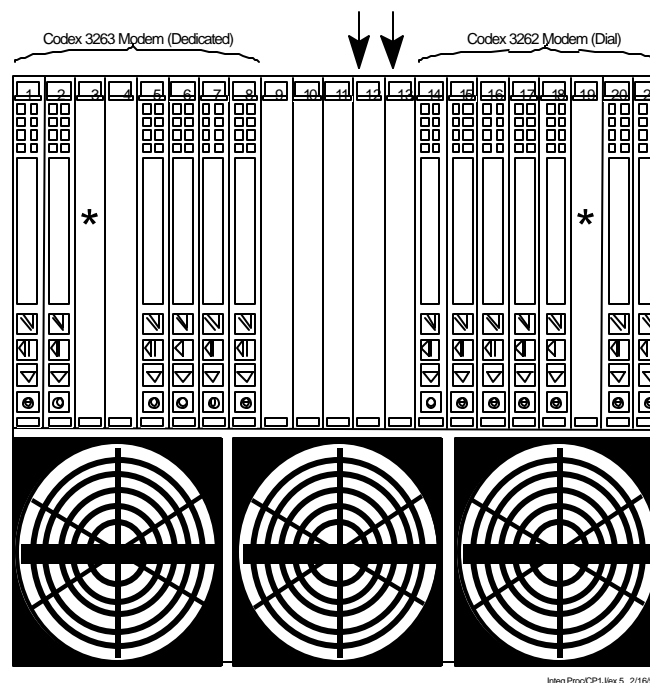

Figure 1: AWIPS/LDAD Modem Nest (Front)
2. Open the front door of the Modem Nest and remove the filler panels from slots 9 through 13 (figure 1). Break off and discard the two end panels and replace the three remaining panels over slots 9 through 11.